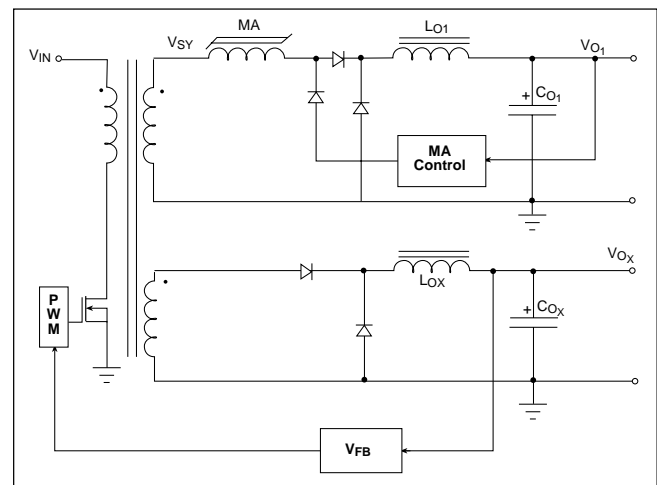

Figure 3. MAGAMP
3. A Magnetic Amplifier Post Regulator, Figure 3, offers high efficiency and tight regulation for output currents greater than 5A.